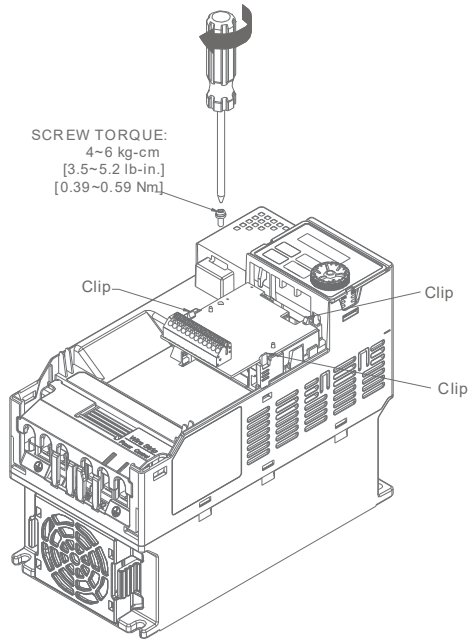

Figure 8-5
5. As shown in the Figure 8-5, make sure that three clips are properly engage the adapter/ option card and then fasten the screw. (Suggested torque value: 4–6 kg-cm [3.5–5.2 lb-in.] [0.39–0.59 Nm] )